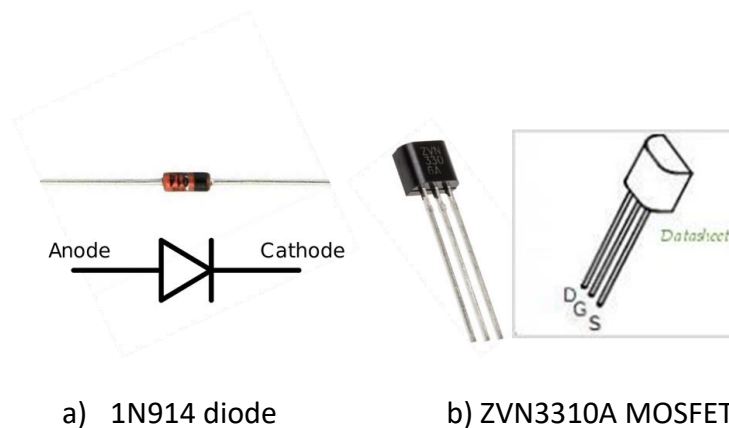
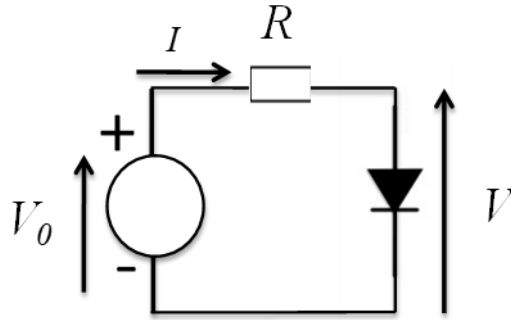

Figure 0. New components from the kitset
Fig. 6 Diode characterisation circuit
After several of the LTspice simulations is a corresponding experiment using the ADLP2000 kitset components. There will focus on the diodes and MOSFETs in the kit shown in the Figure 0 below. Please note these components are fairly robust, but care should be taken handling the MOSFET as they are prone to damage from static electric charge.
E1. Set up the circuit shown in Fig. 6. Select the **1N914** silicon diode by right-clicking on the diode in your schematic, **Pick New Diode** and then click on **1N914** from the list of diodes, then click **OK**. Set  $R$  to  $470\ \Omega$  and the DC voltage source ( $V_0$ ) to  $0\text{V}$ .
E2. Now build the circuit in Figure 6 with  $V_0 = V_{\text{USB}}$  from your USB power pack,  $R = 470\ \Omega$  and the 1N914 diode which can be identified via the tiny writing on its body as in Figure 0. It should be easy to identify as there are 4 of them in the kitset. Note the orientation of the diode so
- In the circuit of Figure 6, change the diode in LTSpice to the 1N5817 (note the snazzy symbol) and repeat the measurements in step 2.
E5. Another common form of diode is the Zener diode. In this diode the p-n junction is engineered so that the breakdown voltage, when reverse biased, is reduced from 100's of volts down to a specific value defined as its Zener breakdown voltage. This will typically be in the range of 3 to 30 V. To test a Zener diode, set up the circuit in Figure 6, but with the diode reverse biased (pointing upwards).
E6. In the kit there is a 1N4729 Zener diode (labelled C3V6). Set up the circuit in Figure 6 and use Probe A to measure the forward bias voltage across the diode (Amplitude 5 V, DC mode, x10) and also set up Probe B to measure the supply voltage  $V_{USB}$  (Amplitude 10 V, DC mode, x10). Set R at 470  $\Omega$ .